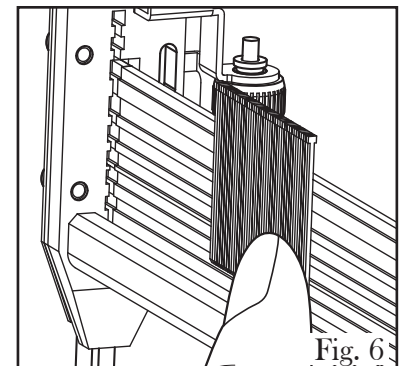

Fig. 6
B. Loading Nails: Place a clip of nails into the grooves of the fixed magazine with the nail tips pointing downwards (Fig. 6). Make sure the heads of the nails rest on the appropriate groove and that the base of the nails are against the bottom of the magazine.